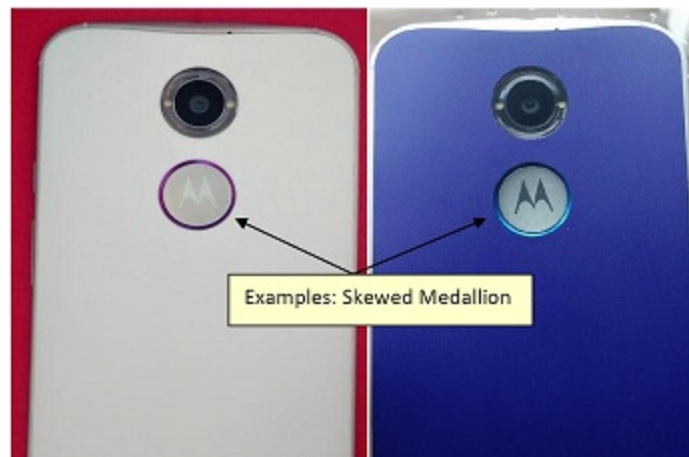

Figure: 1
1. Once replicated, Per Service Manual, carefully disassemble the rear cover from the device to gain access to the medallion as shown above in Figure 1.